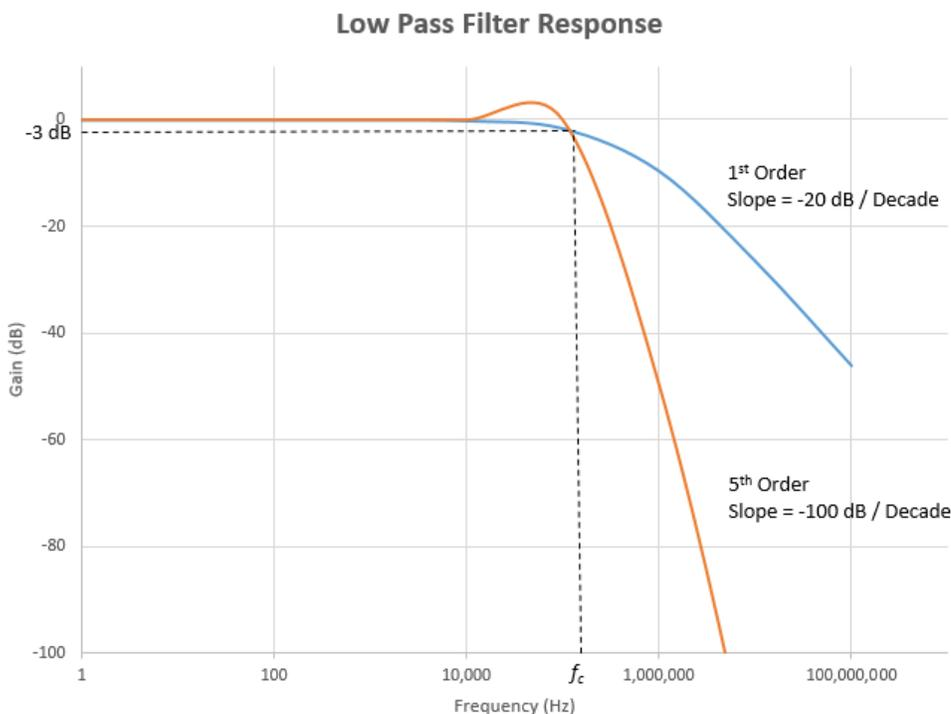
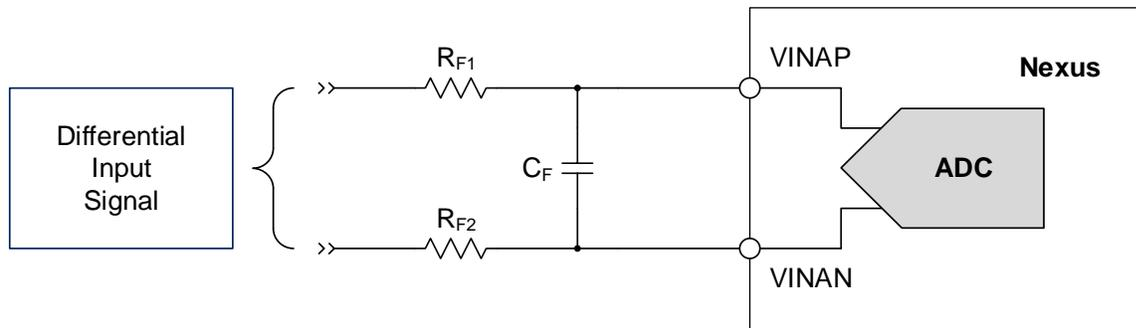

Figure 4.2. Low Pass Filter Response
Figure 4.3. Differential ADC Input Filter
When an ADC is used to sample real time data, it is important to limit the frequency content of the input signal in order to maintain fidelity of the signal that is being processed. Typically, a low-pass filter is used with corner frequency ( $f_c$ ) set to the Nyquist frequency which is half the sampling frequency ( $f_s$ ). Signal processing applications often utilize a multiple order low-pass filter (such as a fifth order or more) to effectively block frequency content above  $f_c$ . The discussion of such filters is beyond the scope of this technical note. Instead, a single-order resistor-capacitor (RC) low-pass filter is discussed. RC low-pass filters attenuate frequency content above  $f_c$  at the rate of -20 dB/decade as shown in Figure 4.2. A differential RC filter is shown in Figure 4.3 for one of the ADCs supported by Nexus devices. The corner frequency for the RC filter is given by Equation 3.